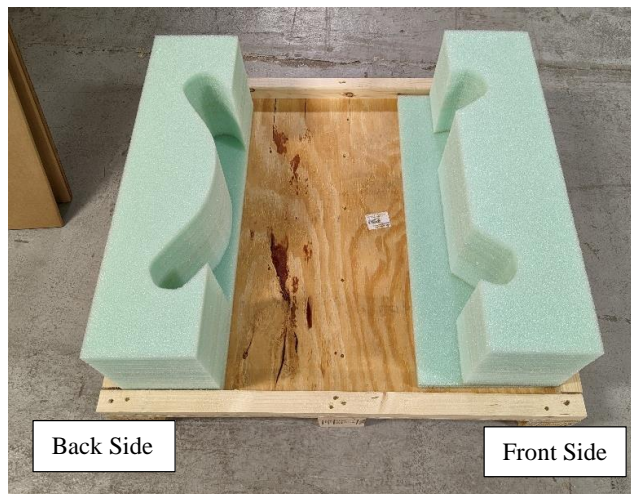
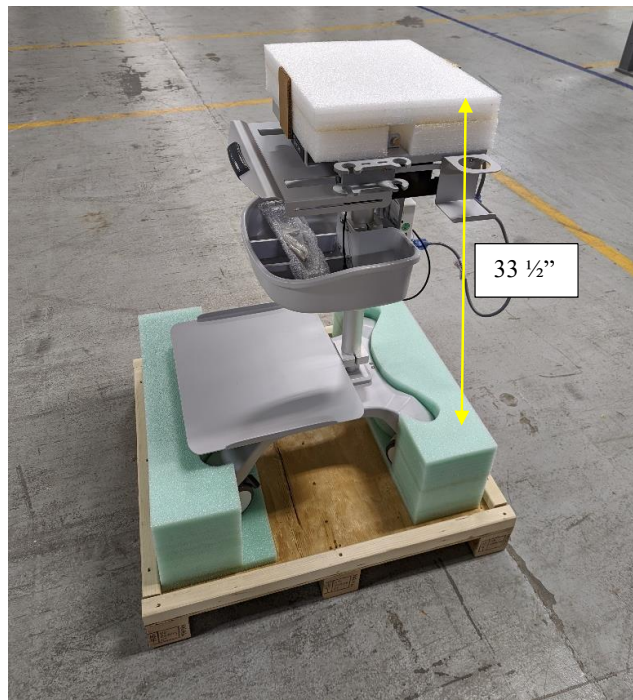

Figure 64
Figure 66
- 3.5.2. To package the 2CP cart you will be using the box set 10664-0010-01. Place the front bottom foam (10664-0010-04) and the back bottom foam (10664-0010-05) on the skid (10664-0010-07) as shown in Figure 64.
- 3.5.3. Add the cart to the skid placing it within the bottom foam pieces. See Figure 64 and Figure 66 for reference of orientation. Remove hose bracket (see Figure 14) and reattach the screws/hardware to tabletop. Wrap hose hanger in plastic wrap or bubble wrap and place in bucket. Also coil up the cable from the power strip and place that in the bucket as well.